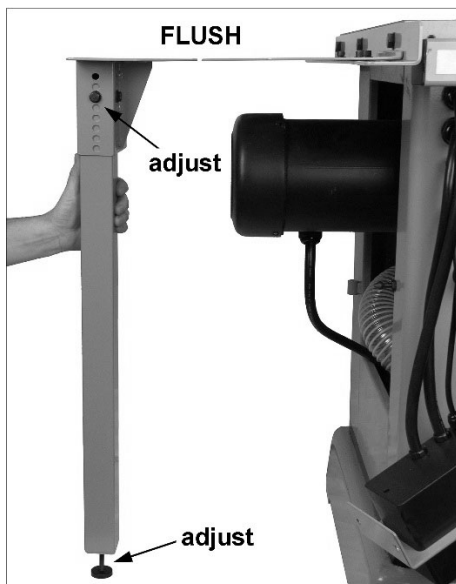

Figure 7-4
3. Position right leg bracket assembly on floor and up against adjustment plate to establish initial height. See Figure 7-4. Change screw hole in leg bracket and/or adjust leveler until surfaces of leg bracket and adjustment plate are flush.